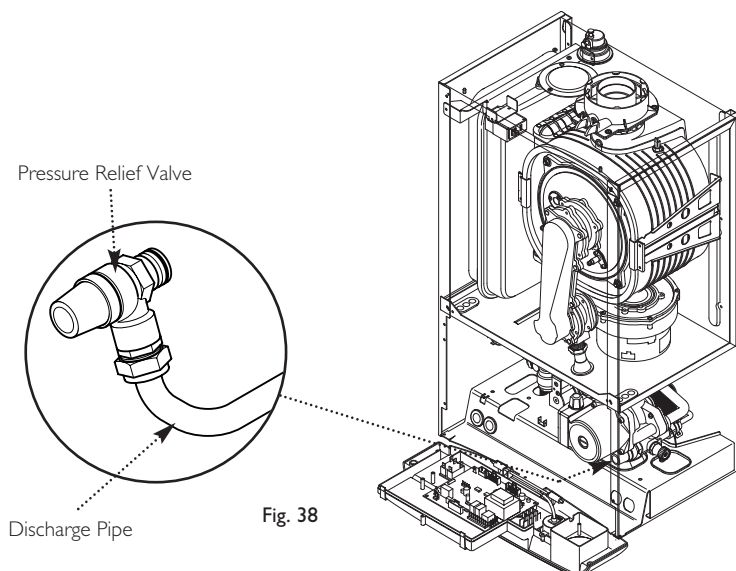

Fig. 38
10.4 Fitting the Pressure Relief Discharge Pipe (Fig. 38)